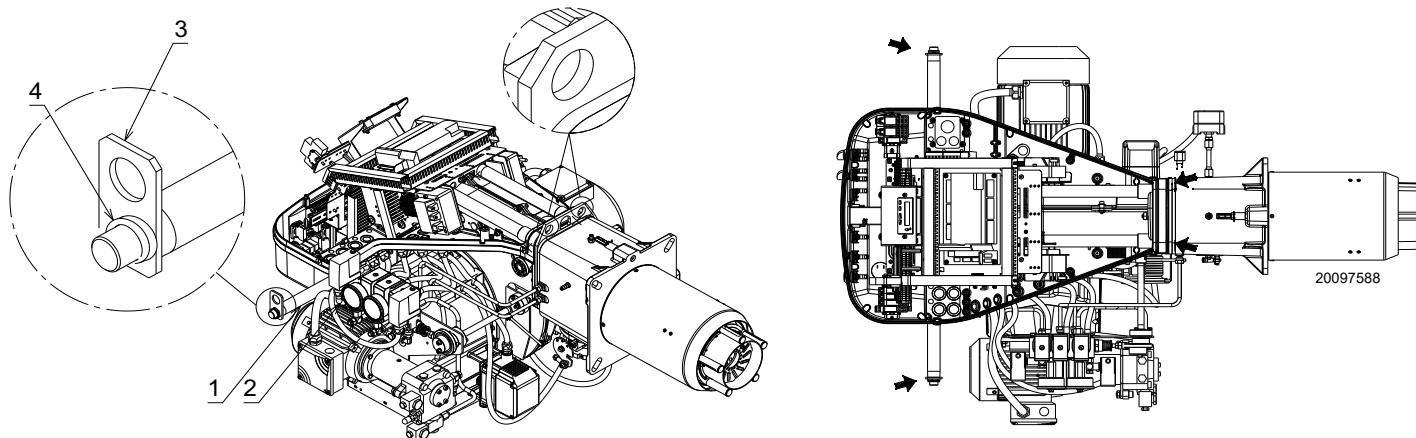

Fig. 10
- screw the two extension bars 1) on the pins 2)(Fig. 10);
- the four burner lifting points are indicated in Fig. 10.